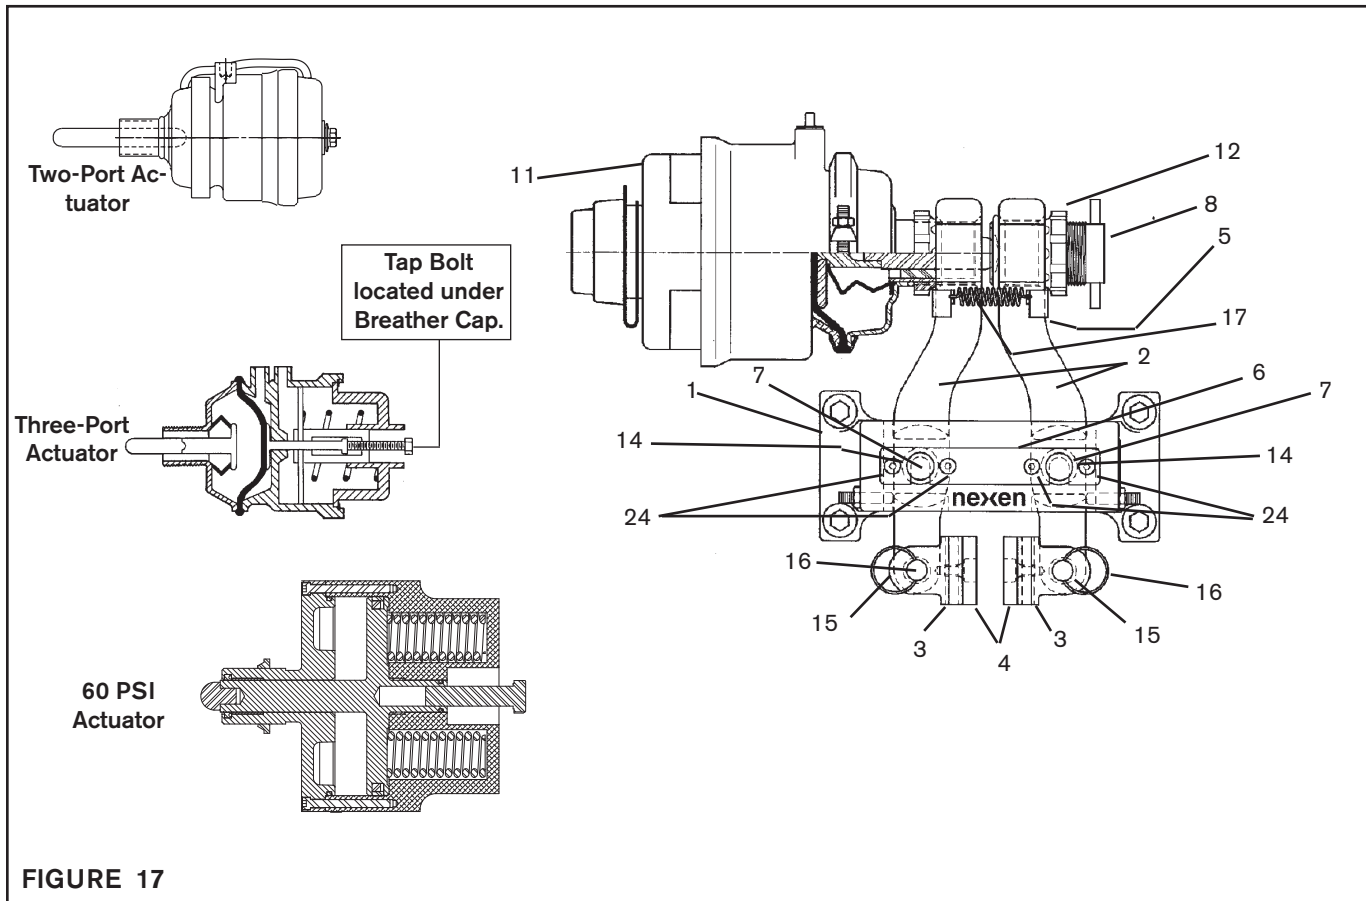

FIGURE 17
Hold-off air pressure can be removed at this time, and service performed (See Figure 17).
1. Loosen the Spanner Nut (Item 12) (See Figure 17).
3. Remove the Actuator (Item 11) from the other Arm (Item 2) (See Figure 17).
4. Remove the Return Springs (Item 17) and Spring Retainers (Item 5) from the Arms (Item 2) (See Figure 17).
5. Remove the Shoe Pins (Item 16) from the Arms (Item 2), Friction Facings (Item 4), and Shoes (Item 3) (See Figure 17).
6. Slide the Friction Facings (Item 4) and Shoes (Item 3) off of the Arms (Item 2) (See Figure 17).
7. Remove the four Cap Screws (Item 24) securing the Pivot Pin Retainer Plate (Item 6) (See Figure 17).
8. Remove the Pivot Pin Retainer Plate (Item 6) (See Figure 17).
9. Press the Pivot Pins (Item 7) out of the BD Caliper Brake (See Figure 17).
10. Slide Arms (Item 2) out of Main Frame (Item 1) (See Figure 17).
11. Press the damaged Bearings (Item 14) out of the Main Frame (Item 1) (See Figure 17).
12. Press new Bearings (Item 14) into the Main Frame (Item 1) (See Figure 17).
13. Press the damaged Bearings (Item 15) out of the Shoes (Item 3) (See Figure 17).
14. Press new Bearings (Item 15) into Shoes (Item 3) (Figure 17).
15. Slide the Arms (Item 2) back into the Main Frame (Item 1) (See Figure 17).
16. Ream the new Bearings (Items 14 and 15) to fit the Pivot Pins (Item 7) (See Figure 17).
17. Reinstall the Pivot Pins (Item 7) (See Figure 17).
18. Reinstall the Pivot Pin Retainer Plate (Item 6) (See Figure 17).
19. Reinstall the four Cap Screws (Item 24) to secure Pivot Pin Retainer Plate (Item 6) (See Figure 17).
21. Slide the Friction Facings (Item 4) and Shoes (Item 3) onto the Arms (Item 2) (See Figure 17).
22. Reinstall the Shoe Pins (Item 16) (See Figure 17).
23. Reinstall the Spring Retainers (Item 5) and Return Springs (Item 17) onto the Arms (Item 2) (See Figure 17).
24. Screw the Actuator (Item 11) back onto the Arm (Item 2) (See Figure 17).
25. Screw the Adjustment Screw (Item 8) and the Spanner Nut (Item 12) onto the other Arm (Item 2) (See Figure 17).